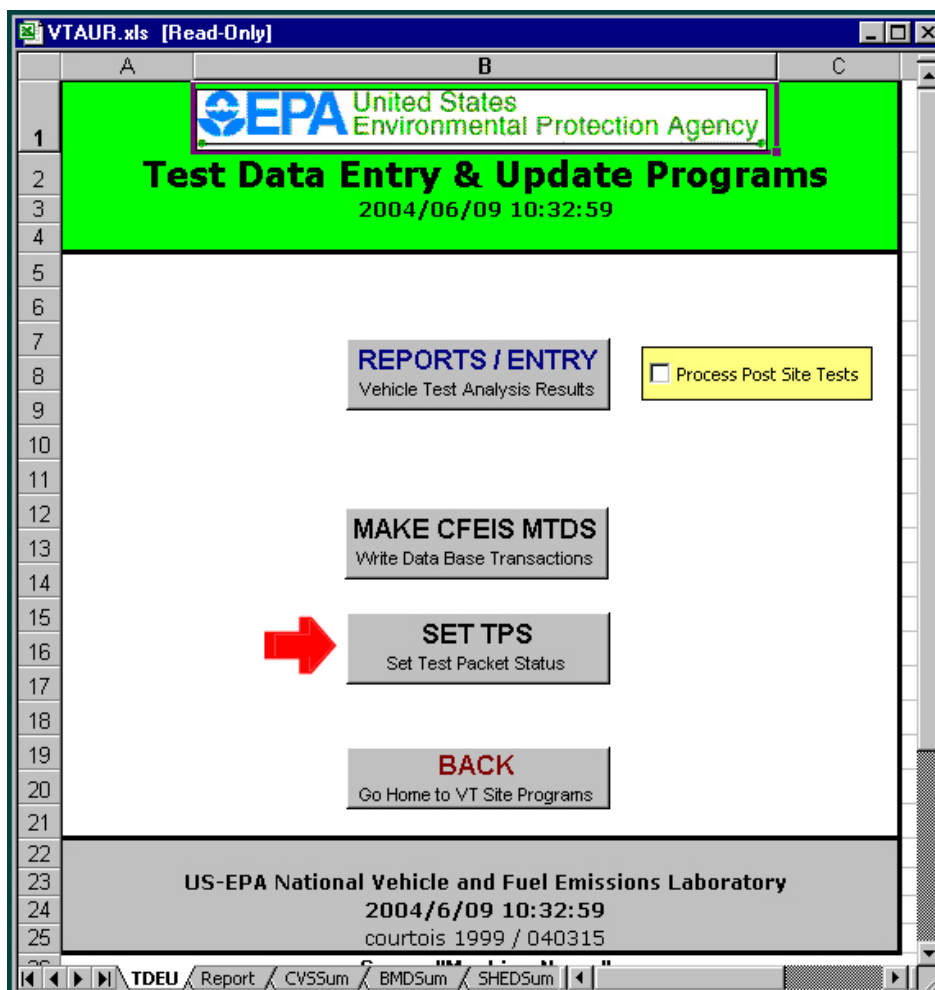

Figure 41
- 610 In the "Test Data Entry & Update Programs" screen which appears, click on the "SET TPS Set Test Packet Status" button. See the arrow in Figure 41.